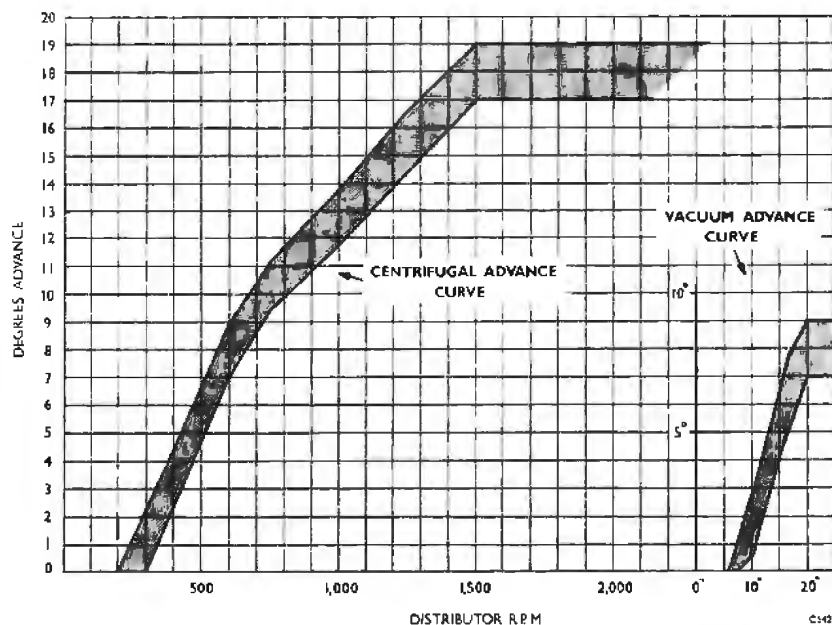

Fig. M4 (S) Ignition advance curves S3 cars
If facilities permit, it is advisable to check the automatic advance mechanism to ensure that the performance curves lie within the prescribed limits. The advance curves are shown in Figure M4(S) of this Supplement.